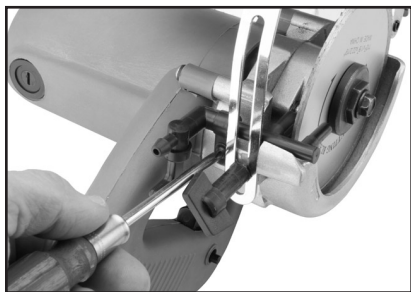

Figure 3. Attach the water plug.
2. Attach the water valve to the saw using the machine screw provided. The plug should be attached in such a manner that the watering posts sit on either side of the blade, and the valve sits near the back of the handle (**Figure 3**).